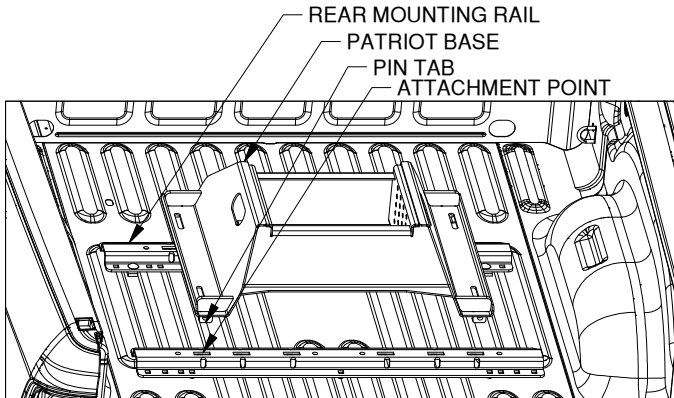

Figure C1: View into truck bed looking toward tailgate.
1. **Position the rear mounting rail.** For this step the base which will be used in the mounting rails is required. Place a mounting rail into the truck bed behind the forward mounting rail. Place the base over the rail attachment points and carefully lower it until the pin tabs pass through the attachment points on the forward mounting rail. Attach the rear mounting rail to the rear mounting points on the base. The base should rest flat against the top of the rails, see Figure C1. With the base still attached, ensure that the rear rail is centered in the truck bed.